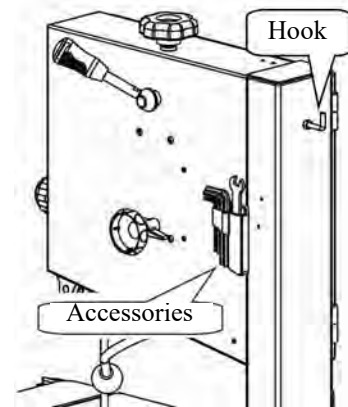

Fig. 18: Mounting the accessories
Step 1: Install the accessory tool assembly to the frame using M4X10 screws. Attach the hook to the frame with the hex nut. The accessory and rip fence can be mounted as shown in Figure 18.